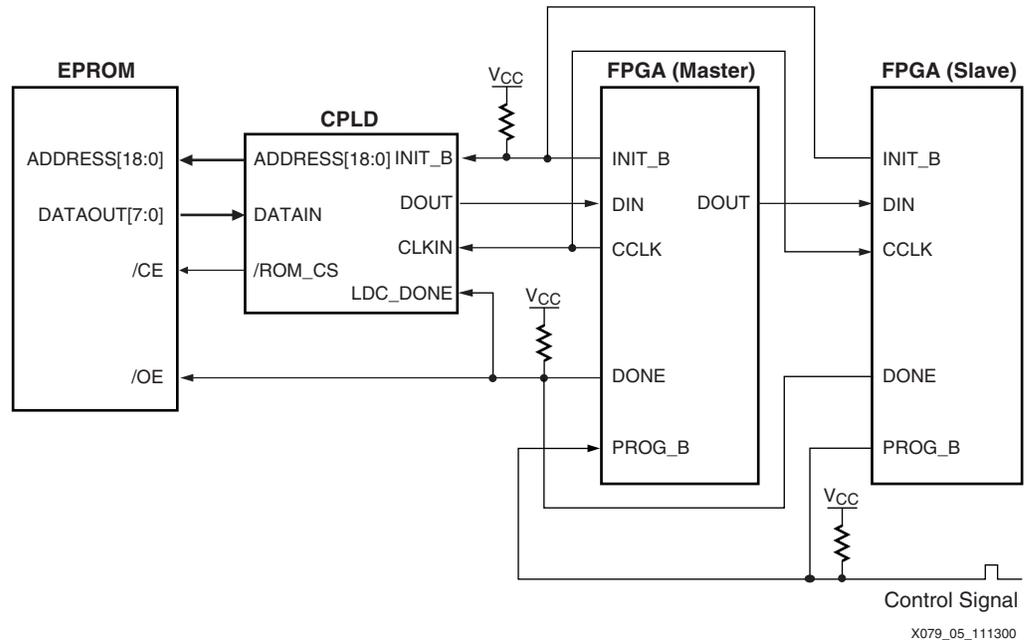

Figure 3-8: Configuring Virtex-II Pro Devices Using a CPLD and Parallel PROM
- XAPP079: *Configuring Xilinx FPGAs Using an XC9500 CPLD and Parallel PROM* (www.xilinx.com/apps/xappsumm.htm#xapp079) describes an architecture that configures a chain of Virtex-II Pro devices using Master-Serial mode. See Figure 3-8 for an example of FPGA configuration using a CPLD and a parallel PROM.